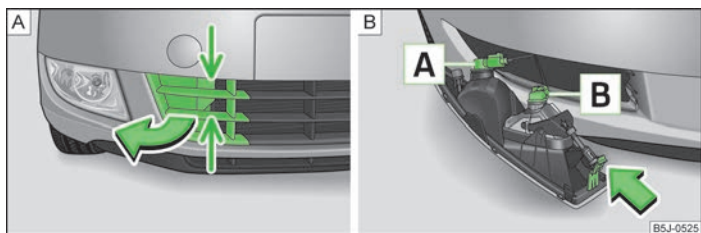

Fig. 150 Front bumper: Protective grille/removing the fog light
Bulb arrangement » Fig. 150.
» Grasp the protective grille in the areas marked by the arrows » Fig. 150 - **A** and remove the cover.
- » Insert your hand into the opening in the protective grille and press the catch » Fig. 150 - **B** in the direction of the arrow.